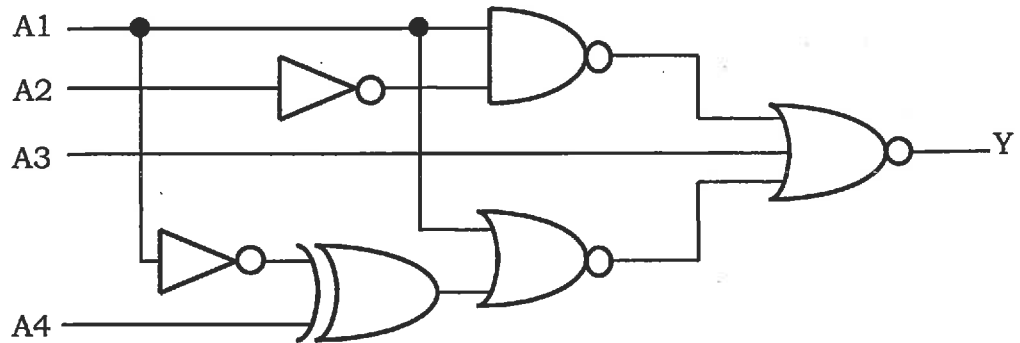

Figure Q1
1. (a) (i) Determine the Boolean expression for output Y of the circuit given in Figure Q1. Simplify the expression using Boolean algebra.
- (ii) Implement the circuit of Figure Q1 by using 2-input NOR gates only.